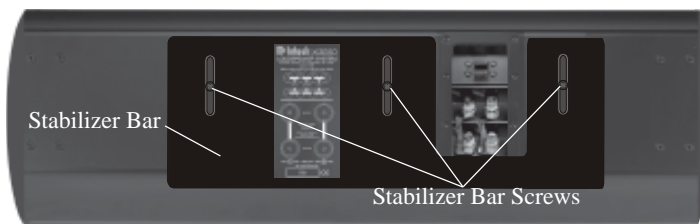

Figure 26
- Using the supplied Allen Wrench, remove the three screws securing the Stabilizer Bar to the back of the XCS350. Refer to figure 26. Replace the just removed center screw with a supplied one of the same type, but shorter length. Refer to figure 28.